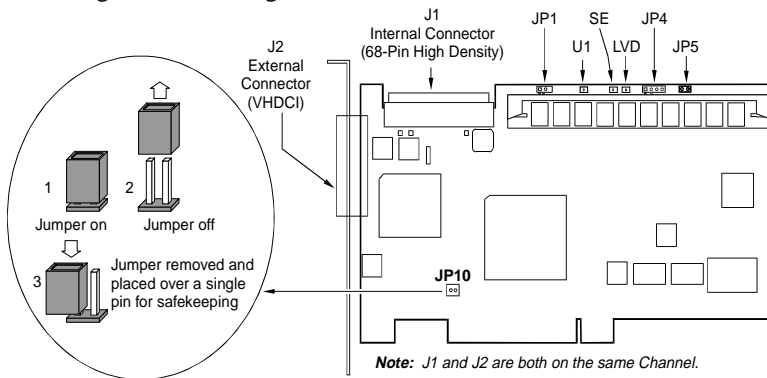
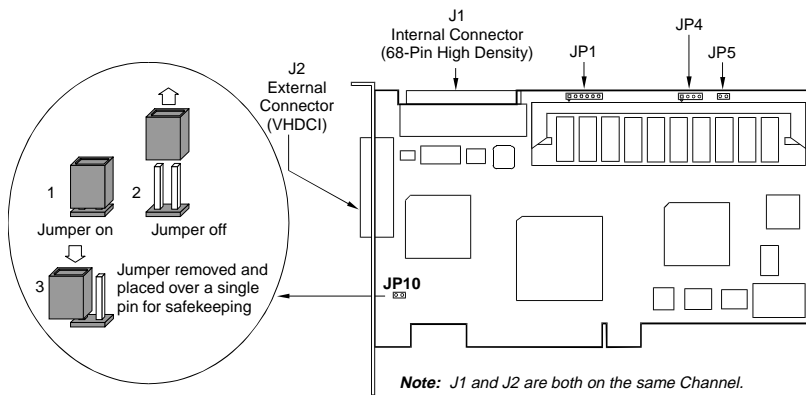

Figure 1. AcceleRAID 150 with Component Locations
Figure 2. AcceleRAID 250 with Component Locations
2. If JP10 on the AcceleRAID 150 or 250 is installed, remove it, as shown in Figure 1 and in Figure 2.
2. If JP10 on the AcceleRAID 150 or 250 is not installed, install it, as shown in Figure 1 and Figure 2. On the AcceleRAID 200 JP10 is permanently installed, as shown in Figure 7.